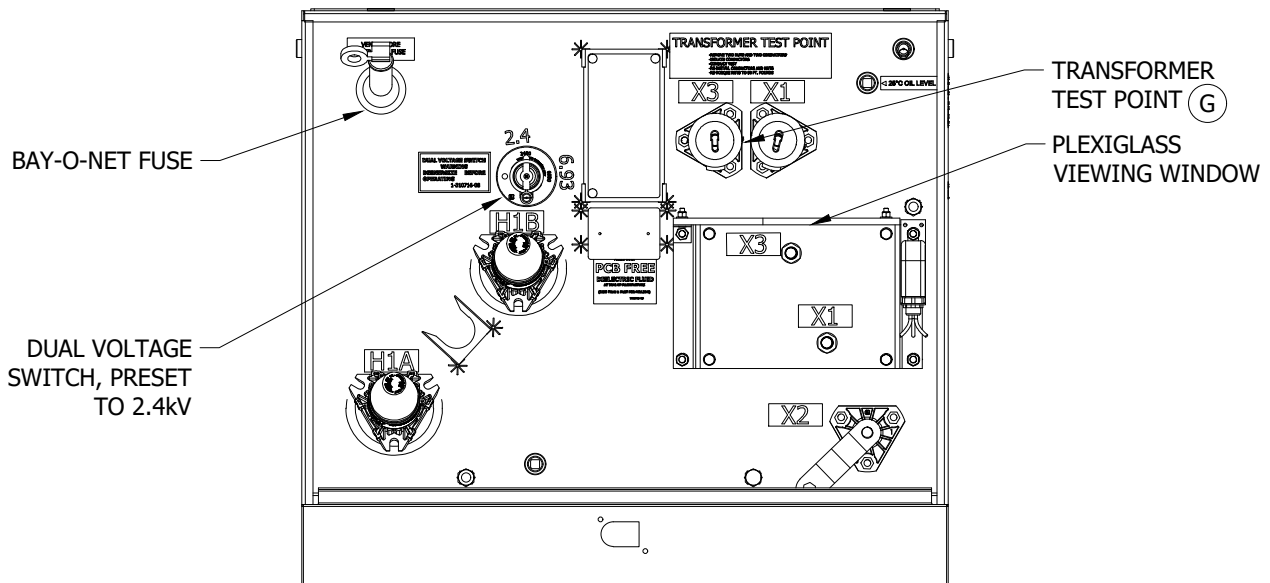

FIGURE 6 (F) (G)
(G) TO PERFORM TRANSFORMER PRE-TEST, DISCONNECT AND ISOLATE X3/X1 CONDUCTORS SHOWN IN FIGURE 6. PERFORM TEST, THEN RE-INSTALL X3/X1 CONDUCTORS, AND TORQUE TO 50 FT. LBS. DO NO OVER/UNDER TIGHTEN.